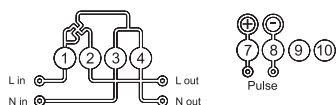

Fig. 2: Wiring diagram
5.14 Wiring diagram is shown in Fig. 2.